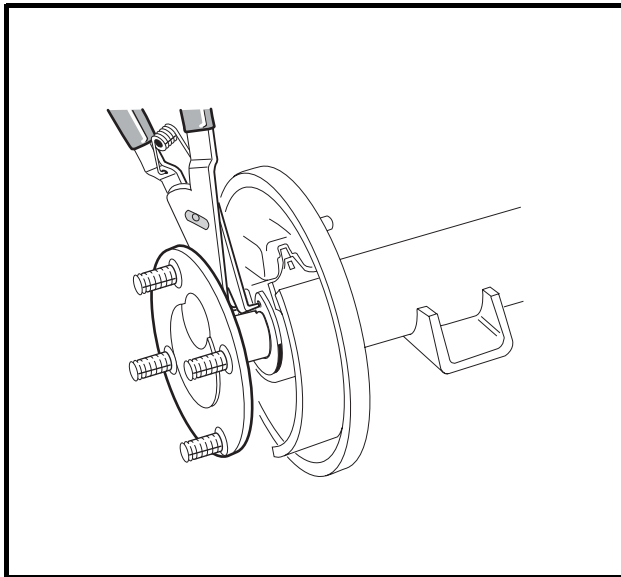
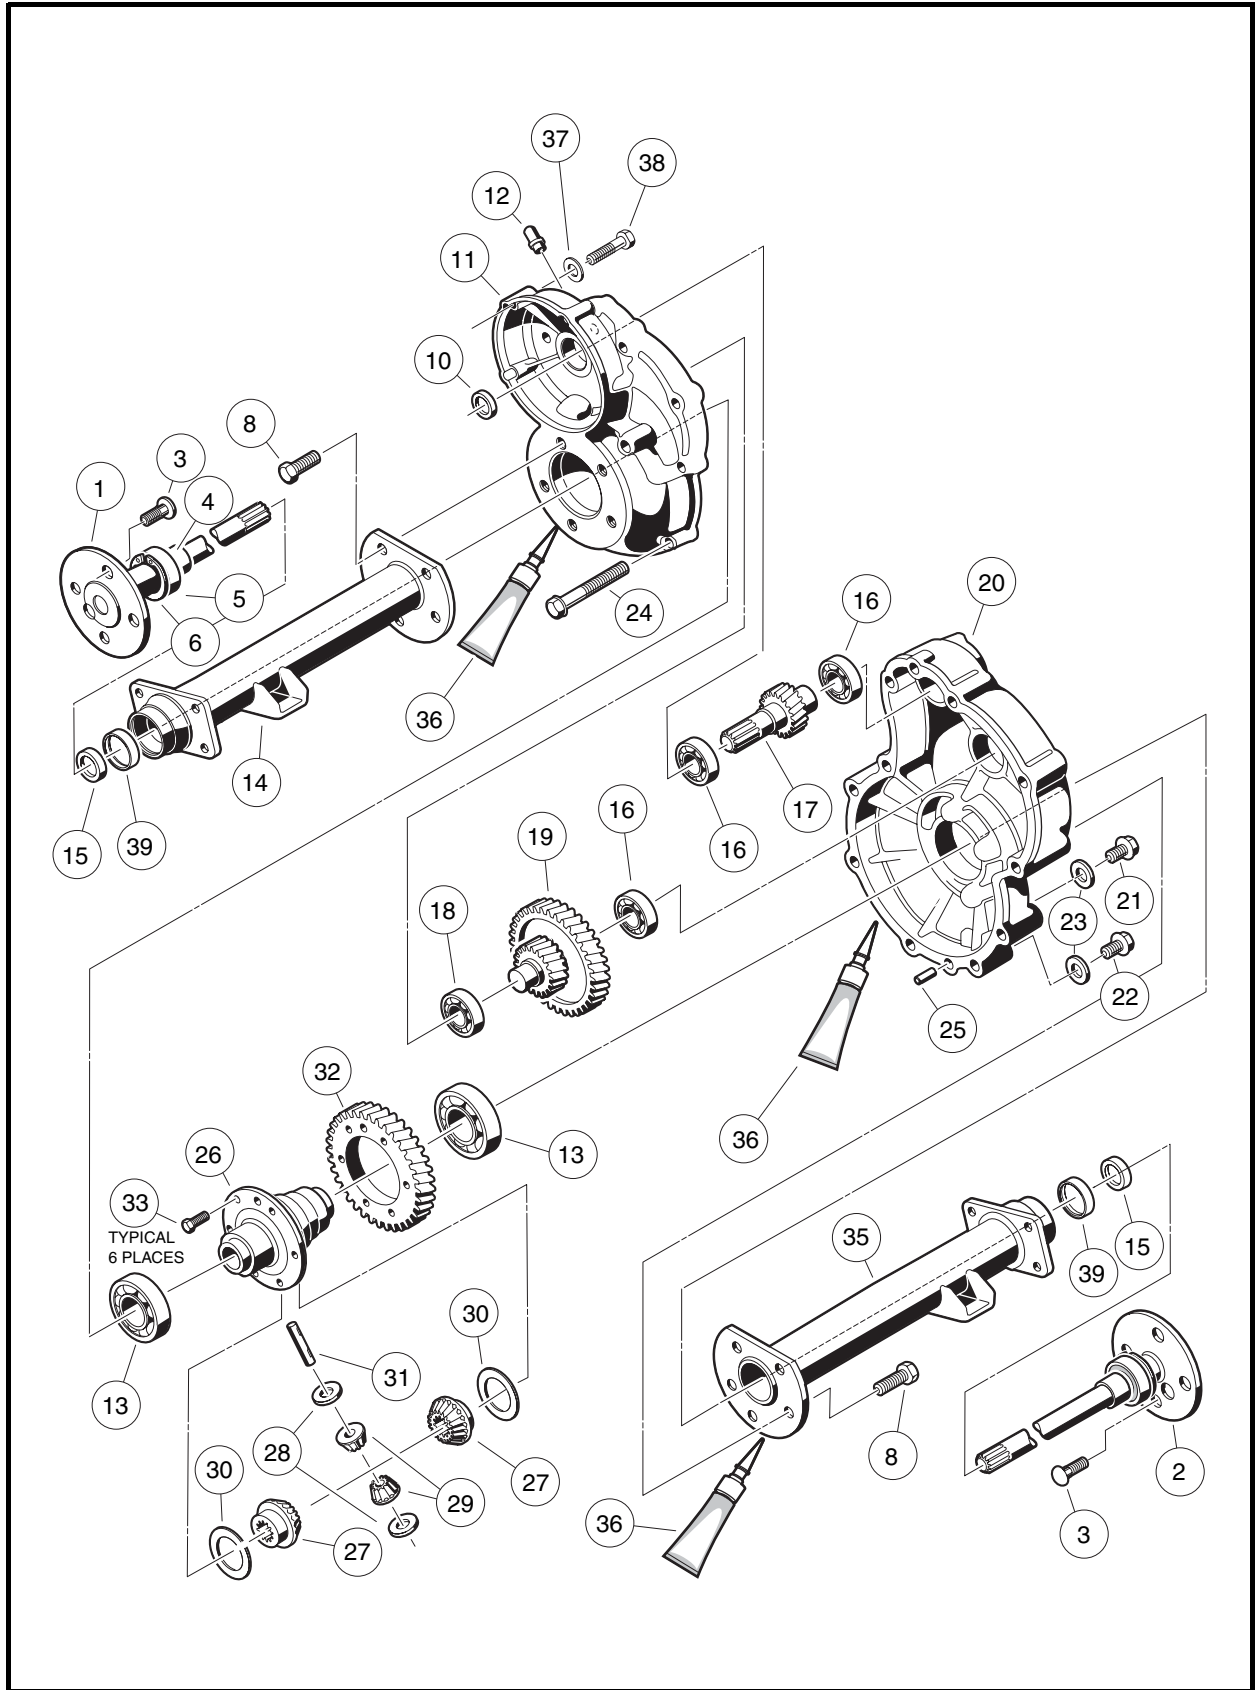
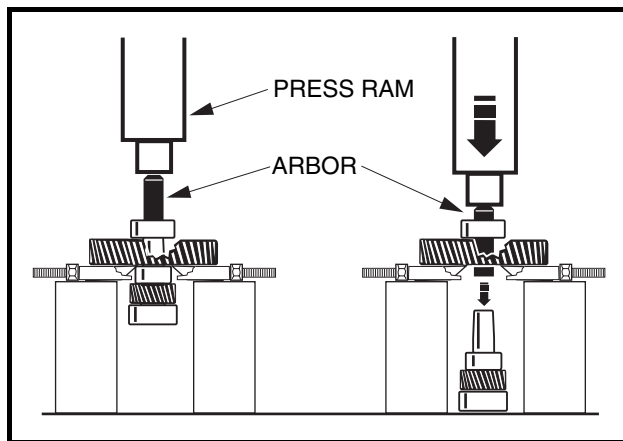
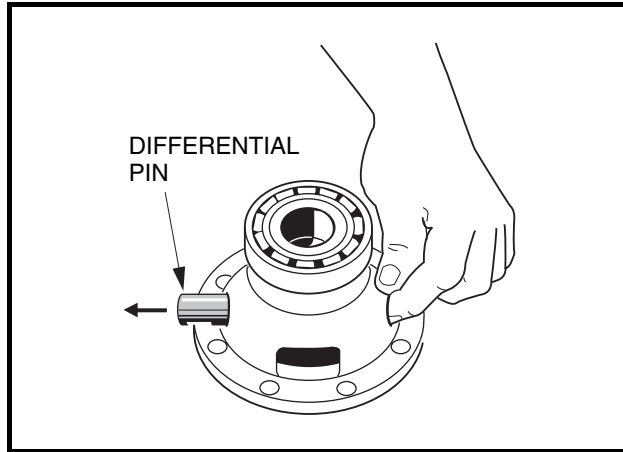

Figure 17-1 Axle Tube
Figure 17-5 Transaxle – Type G
Figure 17-13 Intermediate Gear Assembly
Figure 17-15 Differential Pin
There are two plugs located on the lower half of the transaxle housing. The upper plug (21) (as viewed when the vehicle is on a level surface) is used as a lubricant level indicator (**Figure 17-5, Page 17-3**). When the vehicle is parked on a level surface, the lubricant level should be even with the bottom of the hole. The lower plug (22) is for draining the lubricant. When draining the lubricant, the upper plug should be removed so the lubricant will drain faster. Be sure the drain plug is installed before filling. **See following NOTE.**
4. Use 90° internal snap ring pliers to remove the internal retaining ring (6) from the axle tube (**Figure 17-5, Page 17-3**). **See also Figure 17-1, Page 17-2.**
8. Inspect bearing (5) (**Figure 17-5, Page 17-3**). If the bearing in a Type G transaxle is worn or damaged, the entire axle shaft assembly (1 or 2) must be replaced.
- 1.3. Clean adapter ring seat(s) in the axle tube (14 or 35) (**Figure 17-5, Page 17-3**).
- 2.1. Insert the shaft, splined end first, through the seal and into the axle tube. Be careful not to damage the seal on the inside of the axle tube hub. Advance the shaft through to the bearing on the shaft, then rotate it to align the shaft splines with the splined bore of the differential side gear (27) (**Figure 17-5, Page 17-3**). Continue advancing the shaft until the bearing on the axle is firmly seated within the axle tube hub seat.
- 2.2. Use a pair of snap ring pliers to install the retaining ring (6) inside axle tube hub so that it seats against the axle bearing assembly and into the machined slot in the inside wall of the axle tube hub (**Figure 17-5, Page 17-3**). **See following NOTE.**
NOTE: *If the retaining ring (6), axle bearing (5), or sleeve (4) must be replaced, the entire axle shaft assembly (1 or 2) must be replaced (**Figure 17-5, Page 17-3**).*
Do not remove the axle bearing (5) from a Type G transaxle. If bearing is worn or damaged, the entire axle assembly (1 or 2) must be replaced (**Figure 17-5, Page 17-3**).
1. To detach axle tubes (14 and 35) from the transaxle housing, remove the bolts (8) (**Figure 17-5, Page 17-3**).
2. Remove 11 bolts (24) that hold housing together.
3. Pull the halves of the housing (11 and 20) apart. If necessary, tap lightly on the spline of the input pinion (17). **See following CAUTION.**
4. Remove input pinion gear (17) by pulling gear out while rocking intermediate gear assembly (19). Lift intermediate gear assembly and differential gear case unit out simultaneously (**Figure 17-5, Page 17-3**). **See following CAUTION.**
5. Use a bearing puller or arbor press to remove bearings (16) from the input pinion gear. If the oil seal (10) is damaged, replace it (**Figure 17-5, Page 17-3**). **See also Figure 17-13, Page 17-8. See following CAUTION.**
6. To disassemble the intermediate gear assembly, press off together the bearing (16) and the gear (19) (**Figure 17-5, Page 17-3**). **See also Figure 17-13, Page 17-8.**
7. Press the bearing (18) off the intermediate gear assembly (**Figure 17-5, Page 17-3**).
- 8.1. Remove the hex bolts (33) and the ring gear (32) from the differential case (**Figure 17-5, Page 17-3**).
- 8.4. Remove the differential pin (31) by pushing pin through differential gear case from one side (**Figure 17-5, Page 17-3**). See also **Figure 17-15, Page 17-9**.
8.7. Inspect the bearings (13) of the differential case (26) and replace them if they are damaged (Figure 17-5, Page 17-3). To remove them, press them off. **See following CAUTION.**
1. If bearings (13) were removed during disassembly, install new bearings using an arbor press (Figure 17-5, Page 17-3).
- 2.1. Install the pin (31) (Figure 17-5, Page 17-3). Apply a small amount of oil to all thrust plates and to both ends of the pin.